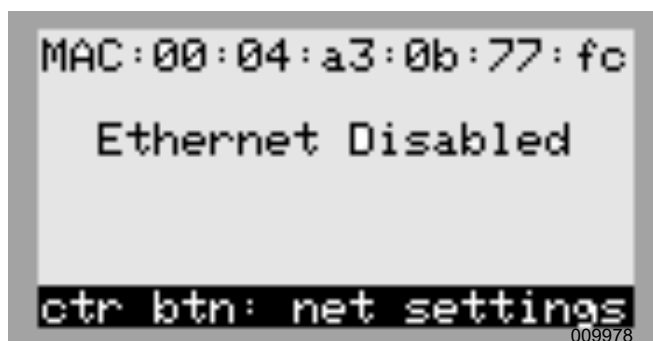

Figure 6-24. Ethernet Configuration (1 of 4)
2. See Figure 6-24. Use the control panel left arrow buttons to scroll to the Ethernet screen. If the screen reads Ethernet Disabled, follow steps 3 through 5 to enable Ethernet capability. Otherwise, skip to step 6.